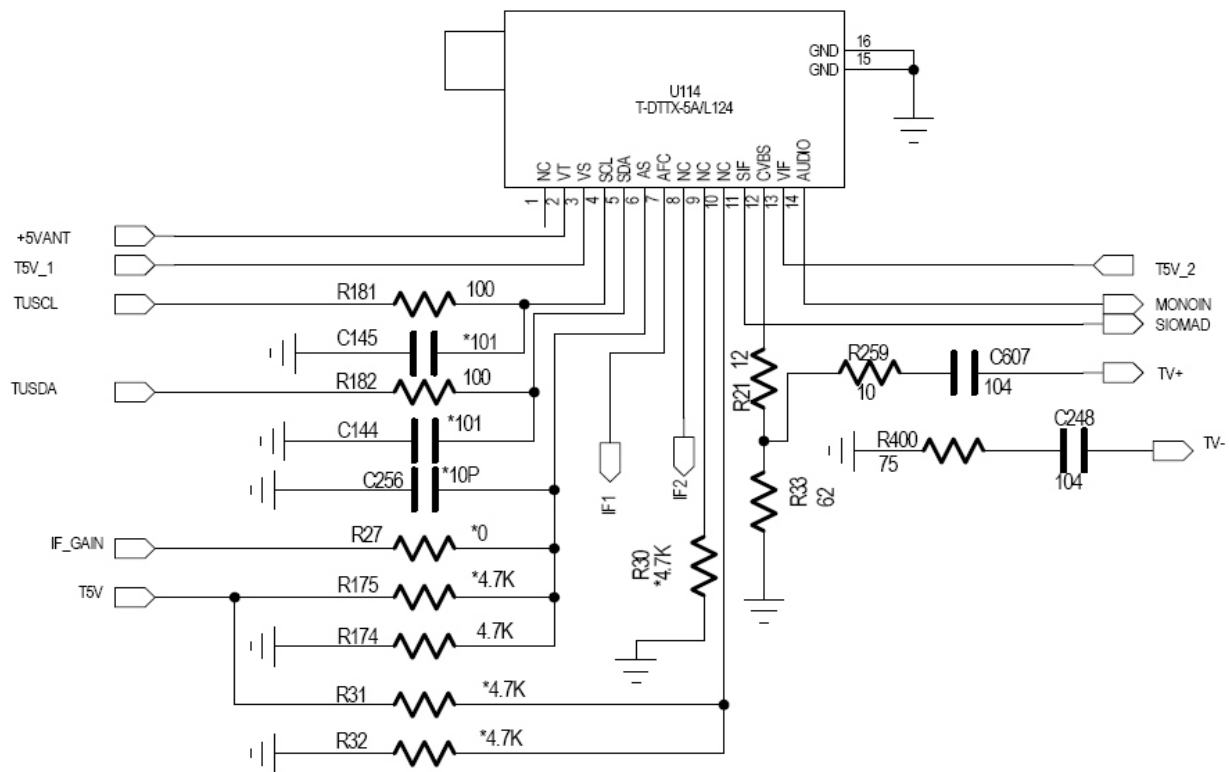

Figure 3.2.4.1 Tuner circuit diagram
(1) Tuner circuit is shown in the figure 3.2.4.1: